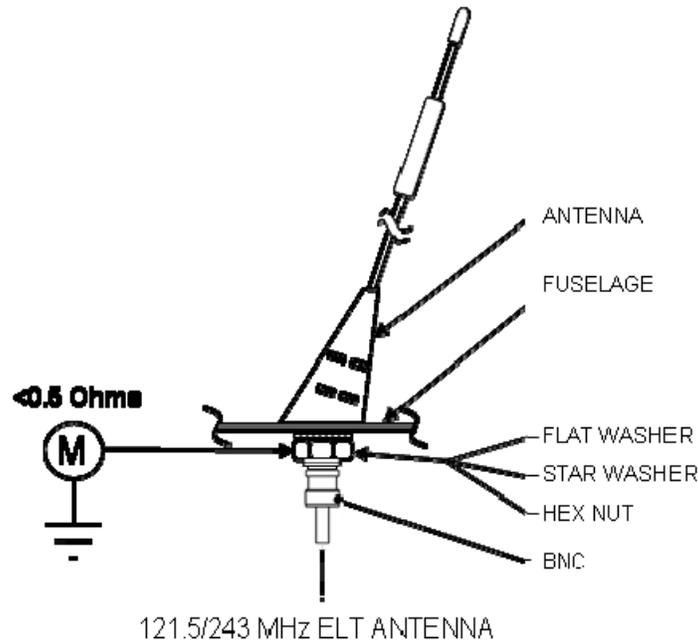

Figure 25-19 121.5/243 Mhz Antenna Inspection
8. Inspect antenna installation as shown in Figure 25-19 for condition, evidence of damage or other factors affecting proper operation.